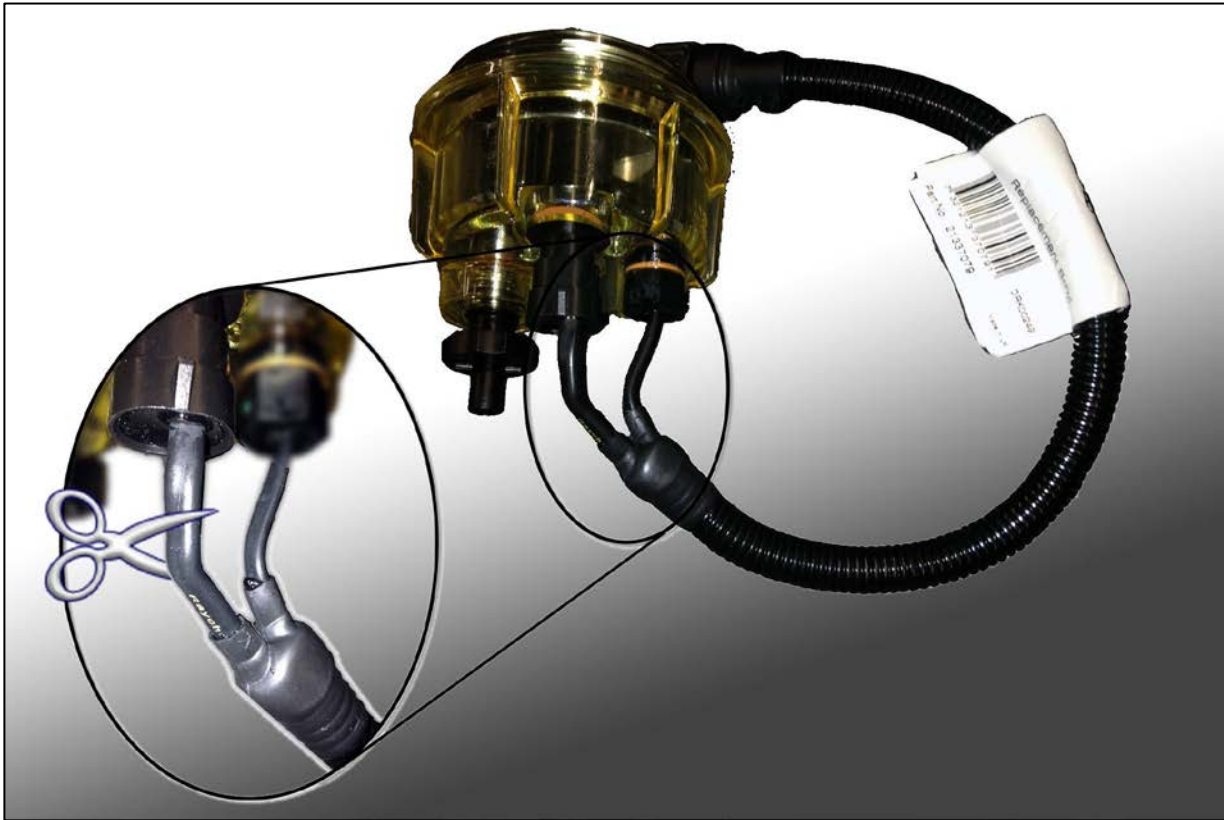

FIGURE 2 : WIF SENSOR HARNESS PREPARATION.
7. Disconnect both connections on the bowl (Figure 2)
8. Cut the heater cable.(Figure 2)